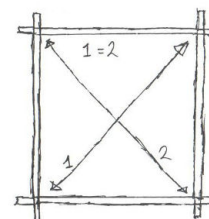

Fig. 2. Diagonals 1 and 2 must be equal.
**Check the diagonals** before you continue. The two diagonal measurements must be equal (fig. 2). Adjust the base frame until they are.